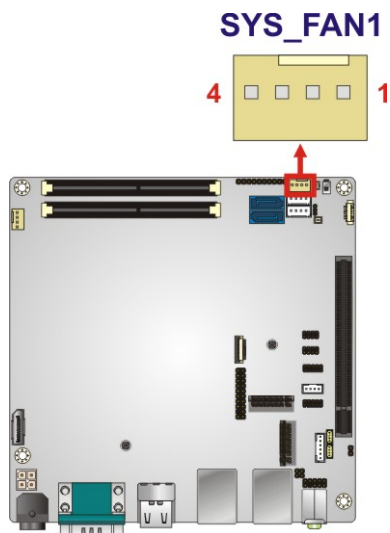

Figure 3-12: System Fan Connector Location
- CN Location: See **Figure 3-12**